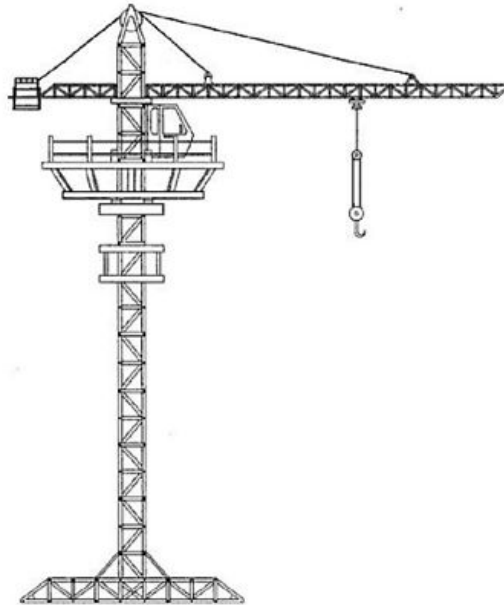

FIG. 1 (The base should not be fixed, use counterweights to balance)
- 4.A pulley arrangement with a thread should be prepared as shown in fig. 1 for application of load.